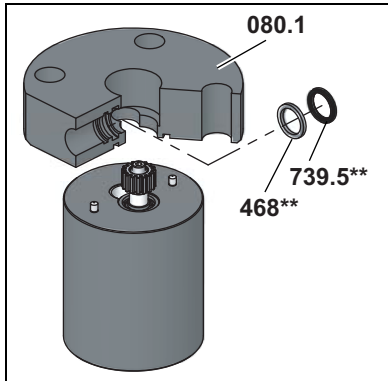

Fig. 7
2. Remove the o-ring **739.5**** and supporting ring **468**** through the hole in the middle of the bearing cover, see Fig. 7, page 31.